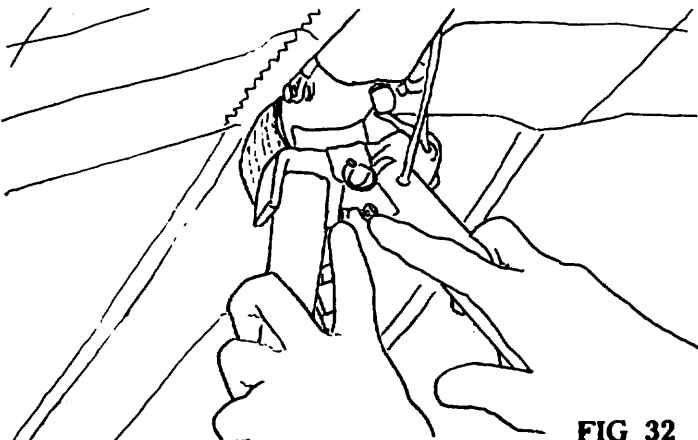

FIG 32
21) Continue the preflight at the control bar apex. Check that the nuts which secure the control bar top bolts are secure. (Fig 32)